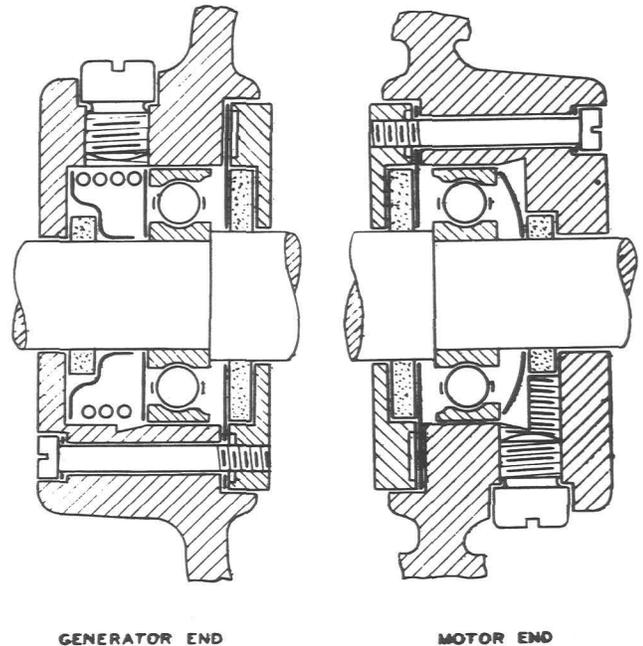

Fig. 4 - Bearing Assembly
(1) To clean and repack the ball bearings, remove all brushes and insulating covers. Remove the large screw cap on the side of the motor and loosen the set screws to release the speed regulator assembly. Remove the screws from the bearing housings on both ends of the machine which secure the inside bearing retainer to the end shields as shown in Fig. 4. Remove the nuts from the end shields and pry the end shields from the frame by inserting a screwdriver in the small openings on the sides. To avoid straining the leads, when removing the end shield, support the end shields by some means other than by allowing them to hang on the leads. Remove the rotor.
(2) Remove the outer ball races, springs, washers, etc., and note their positions so that they may be replaced properly. The outer race may be removed from the end shield easily with the puller. Hold the puller by the knurled end and screw the large hand nut close to that end. Turn the jack screw in the center to allow the collets to close together. Place the bridge part against the end shield and insert the puller until the points of the collets are just behind the race. Turn the jack